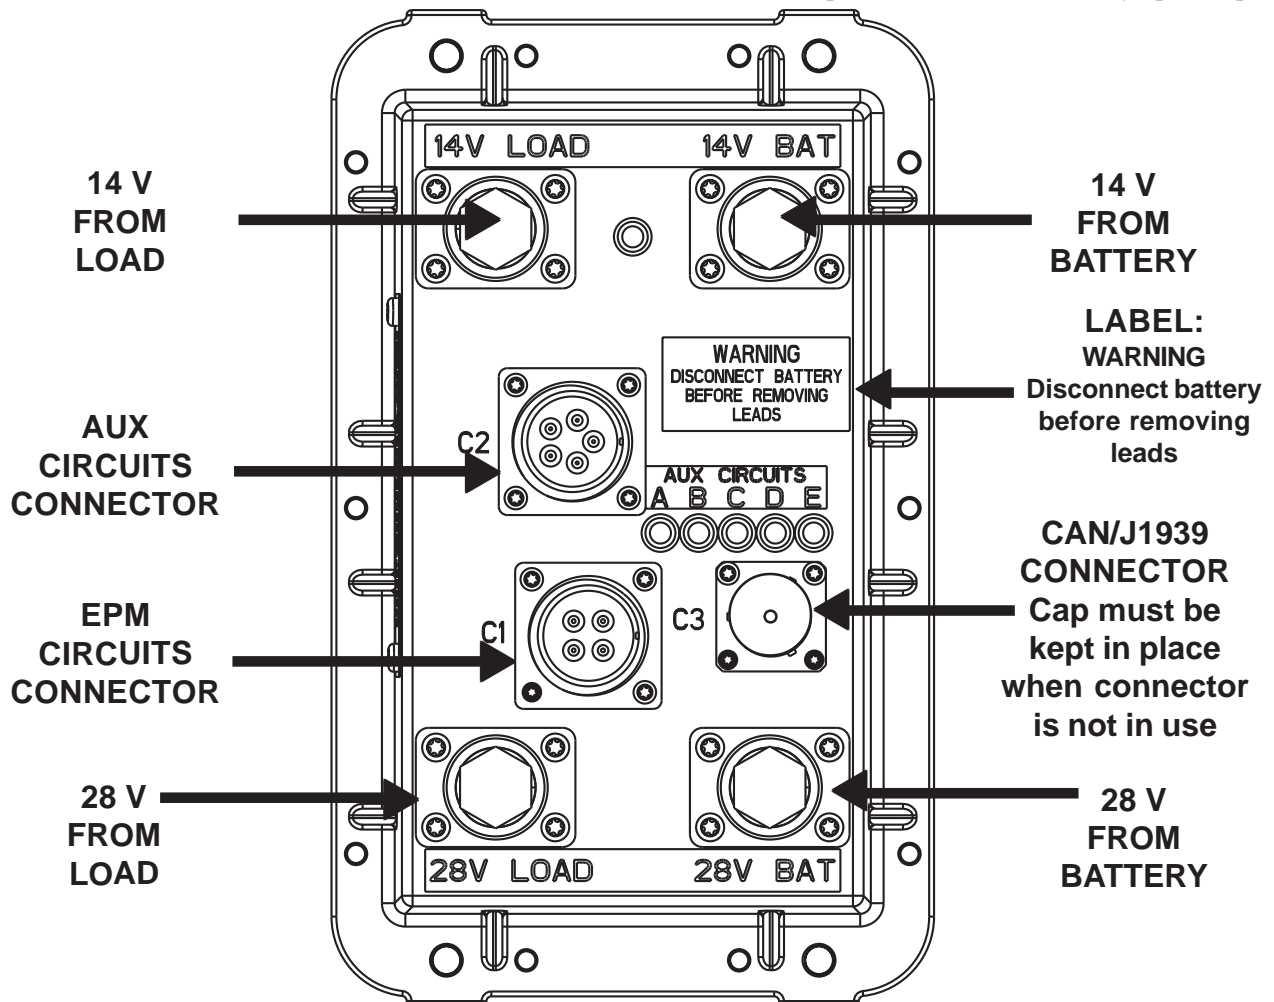
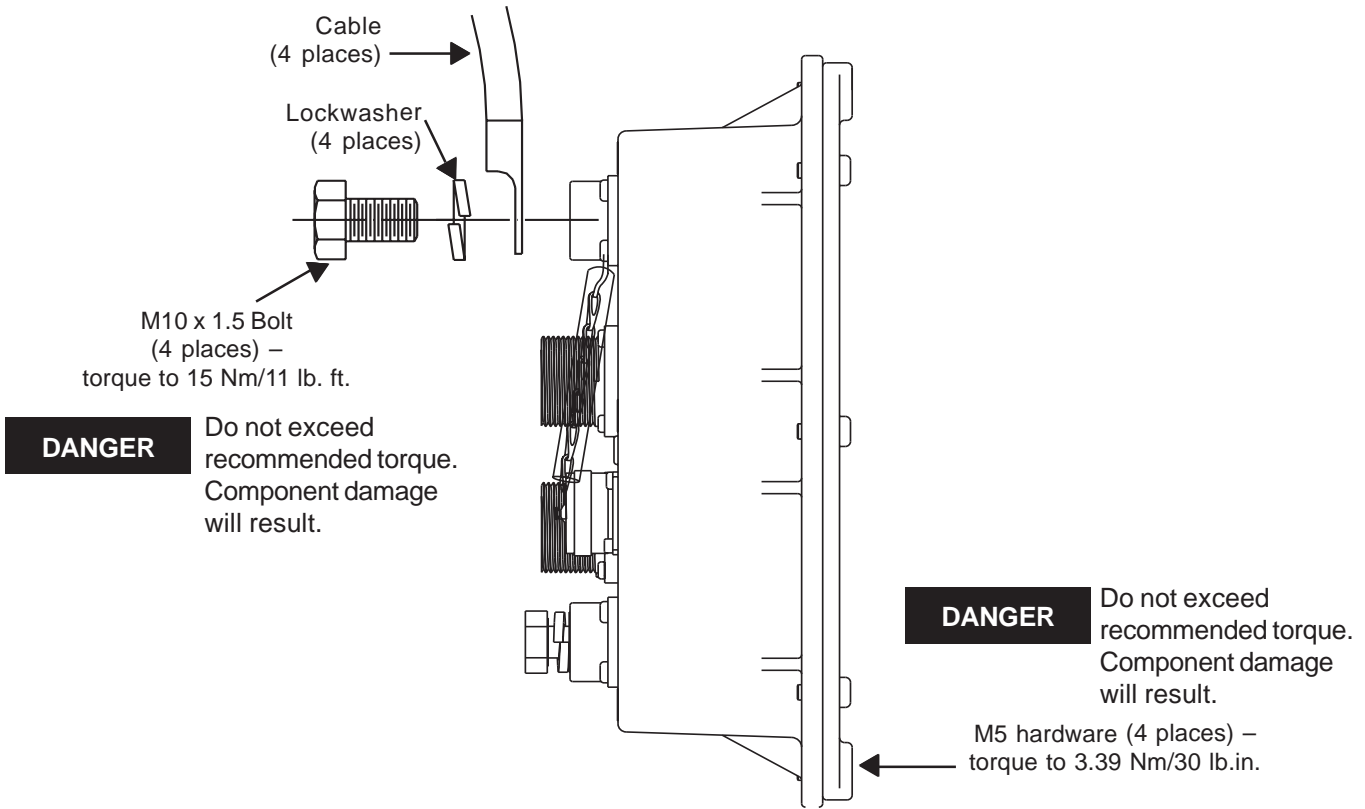

Figure 1 - Cable Arrangement (See Wiring Diagram on Page 2)
Figure 2 - Stacking Order and Torque
1. Install EPM in location specified by vehicle manufacturer. Torque mounting hardware to 3.39 Nm/ 30 lb. in. See Figure 2 on page 2.
2. Connect cables as shown in Figures 1 and 2 in proper stacking order. Tighten to specifications shown in Figure 2.